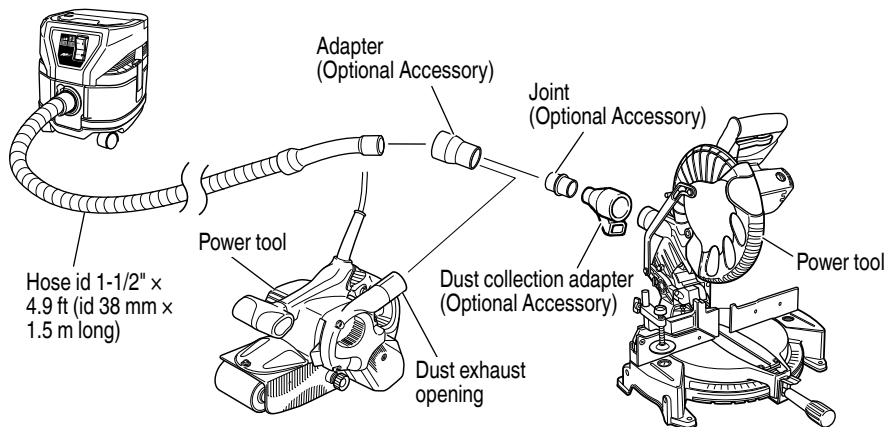

Fig. 18
4. Connect power tools (Fig. 18)